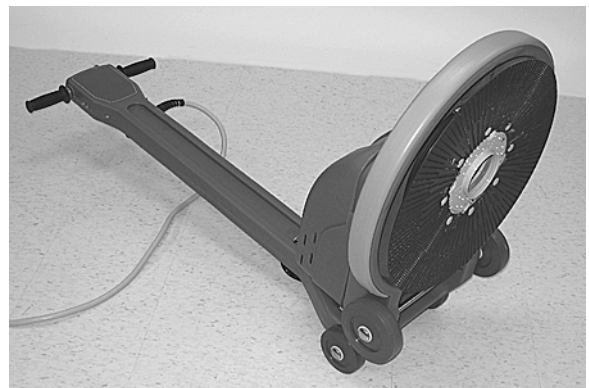

FIG. 1
2. Pull the handle release lever and raise the handle to the upright position. Carefully tilt the machine backwards and rest the handle on the floor (Figure 1).